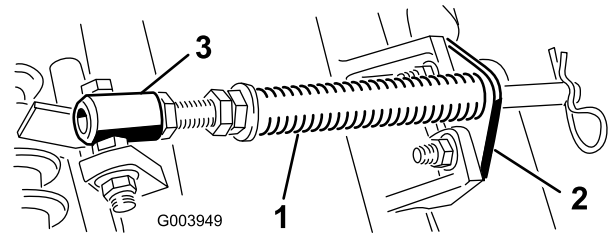

Figure 10
- A. Remove the 2 carriage bolts and nuts securing the rod bracket to the cutting unit tabs (Figure 10).
- B. Remove the flange nut securing the spring tube bolt to the carrier frame tab (Figure 10) Remove the assembly.